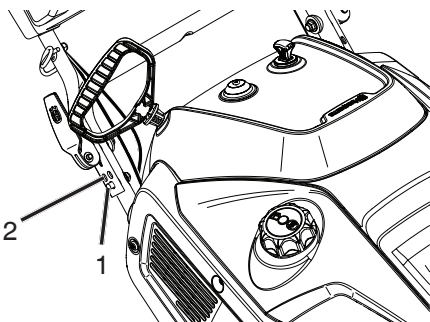

Figure 3
3. Lift operator handle up to the desired height, and close adjustment lever ensuring the positioning pin on the lower handle engages one of the three holes on the upper handle (Figure 3).